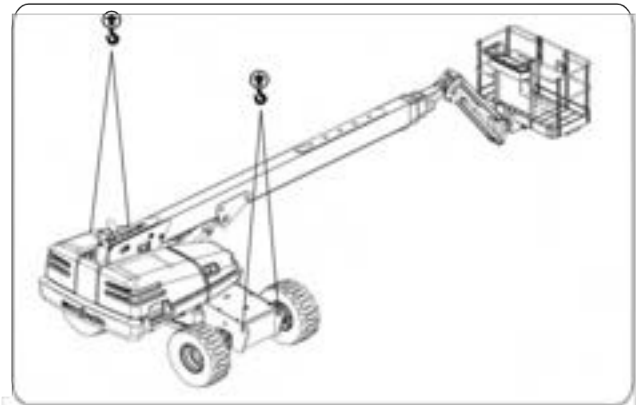
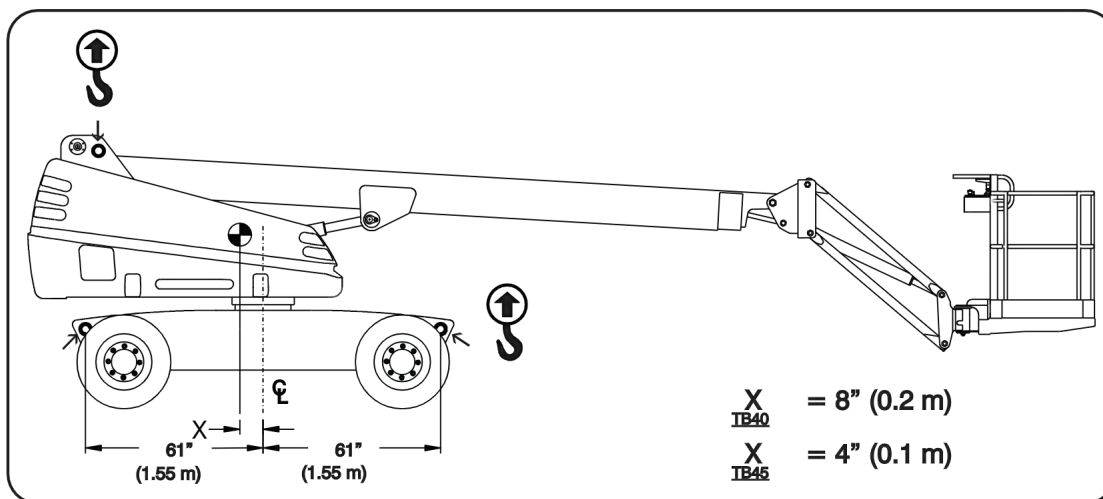
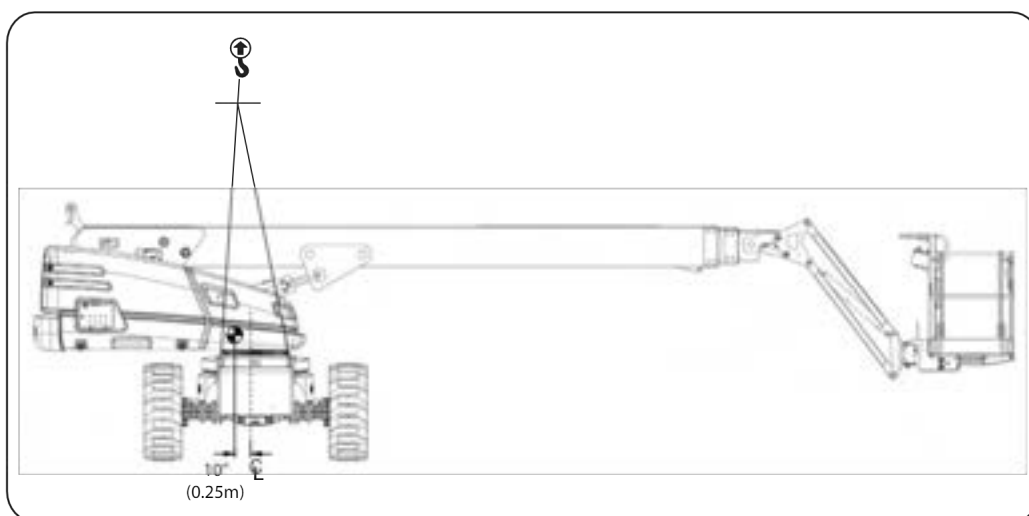

Figure 19 SJ61 T+/SJ66 T+ Lift points
Figure 20 SJ40 T+/SJ45 T+ lift points and approximate center of gravity
Figure 21 SJ61 T+/SJ66 T+ lift points and approximate center of gravity
1. Rotate the boom and position the MEWP as shown in Figure 20 for SJ40 T+/SJ45 T+ or Figure 19 for SJ61 T+/SJ66 T+.
When you hoist the MEWP, the lifting devices must be attached to the designated lift points only. Refer to Figure 20 for SJ40 T+/SJ45 T+ or Figure 19 for SJ61 T+/SJ66 T+.
4. Attach the rigging to all four lift points as shown in Figure 20 for SJ40 T+/SJ45 T+ or Figure 19 for SJ61 T+/SJ66 T+.
5. Adjust the rigging to make sure the MEWP stays level when you hoist it. Refer to Figure 20 for SJ40 T+/SJ45 T+ or Figure 21 for SJ61 T+/SJ66 T+ for the center of gravity location.
Horizontally, the **center of gravity** is approximately in the middle of the MEWP, front to rear and side to side. Refer to Figure 20 for SJ40 T+/SJ45 T+ or Figure 1921 for SJ61 T+/SJ66 T+. Vertically, the center of gravity is approximately a small distance above the chassis.